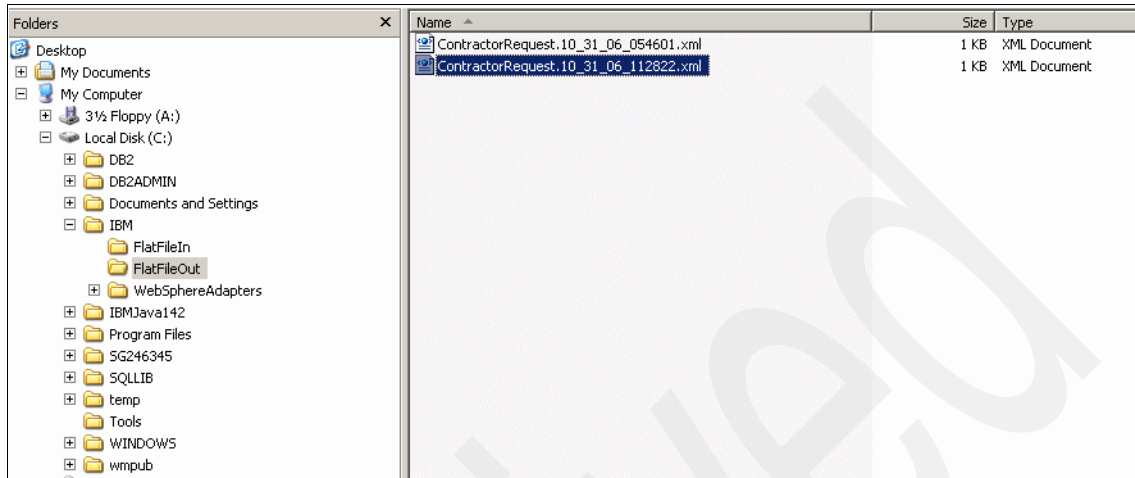

Figure 2-51 New file created
13. Now check the ContractorRequest.xml file with creation time, created in the output directory that we configured in the mapping (Figure 2-51).